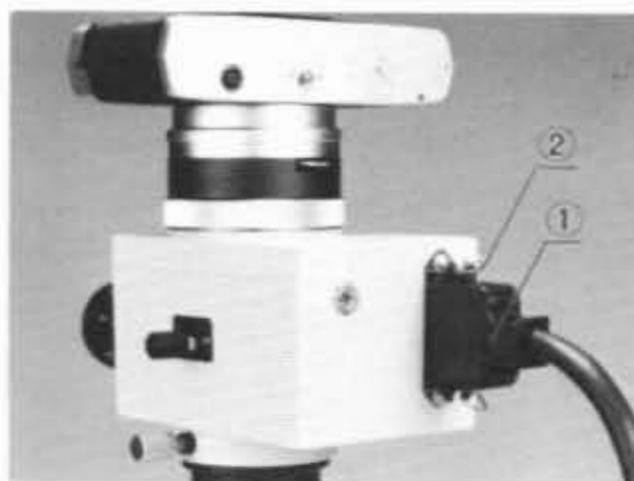

Fig. 12
Plug the connecting cord ① into the jack at the back of the automatic exposure body and clamp with metal snap ②. (Fig. 12)